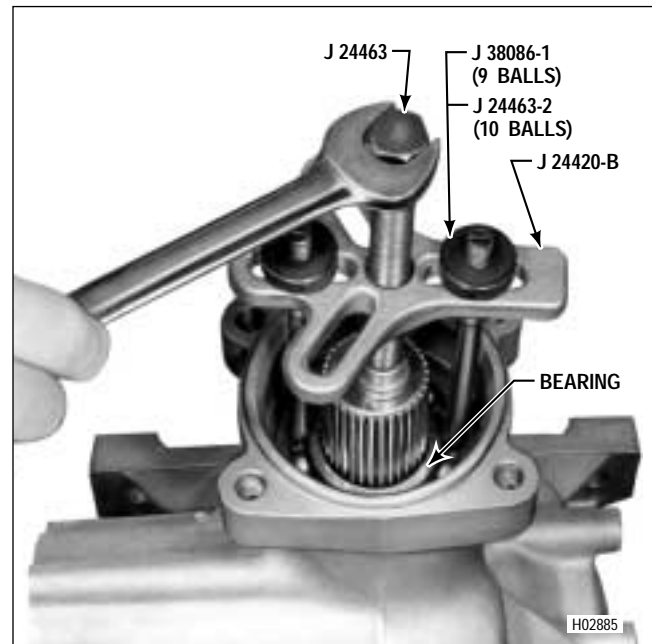

Figure 3-8. Removing Ten-Ball Bearing from Output Shaft
(1) Remove internal snapping 5 from the rear of the transmission housing.
(2) To remove output shaft bearing 4, first count the number of balls in the bearing (Figure 3-8). If the bearing has nine balls, select J 38086-1 puller legs (three required). If the bearing has ten balls, select J 24463-2 puller legs (two required). Assemble the se-
lected legs with puller body J 24420-B and bolt J 24463. Engage each puller leg into the bearing by placing the foot of the leg between two bearing balls. Then twist the leg so that the foot is forced under the bearing races. Adjust the center screw and each of the leg nuts until puller body J 24420-B is perpendicular to the rear face of the transmission housing (Figure 3-8). Tighten the center screw and remove the output bearing.